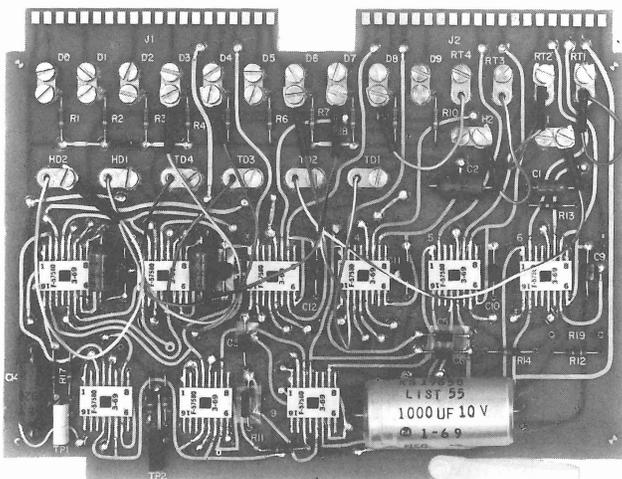

Fig. 2 — Common Logic
1.04 A digit counter, interdigital timer, and decoder form the common logic which is mounted on a plug-in printed wiring board that measures 7.5 by 5.6 inches (Fig. 2). This board is required at all locations regardless of the number of stations. Coding the board is accomplished by means of spade ended leads that are inserted under the appropriate screw terminals.
List 1 – Framework, assembly, equipment, and wiring for one additional response panel per SD-1G253-01, App Fig. 2.